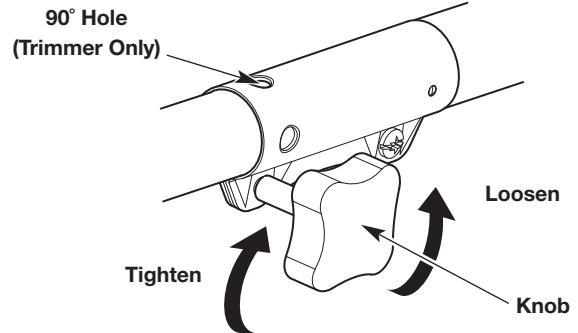

Fig. 4
3. Turn the knob counterclockwise to loosen the coupler (Fig. 4).
6. Turn the knob clockwise to tighten the coupler (Fig. 4).
NOTE: For decorative trimming with a string trimmer attachment, lock the release button into the 90° hole (Fig. 4).
2. Turn the knob counterclockwise to loosen the coupler (Fig. 4).